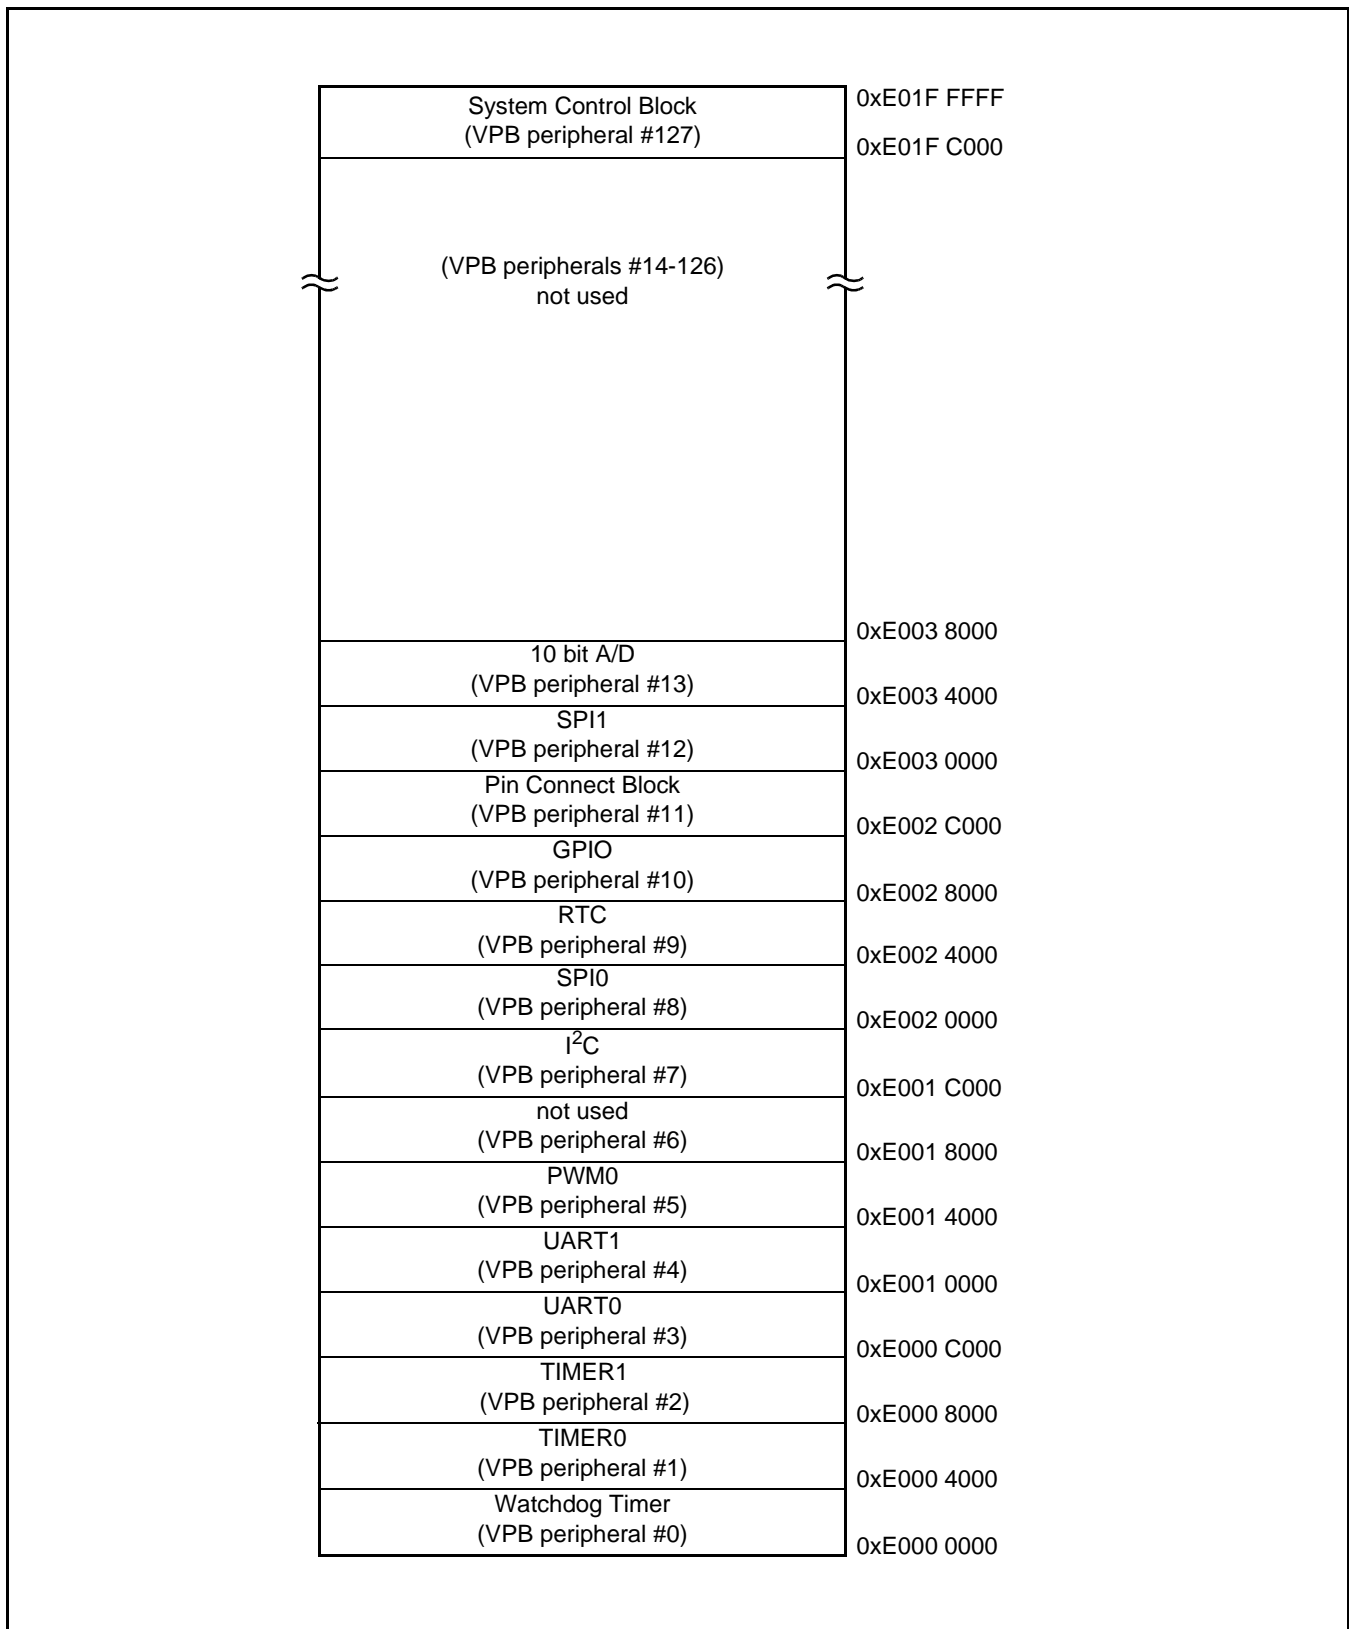

Figure 5: VPB Peripheral Map
- Unassigned VPB peripheral spaces. See Figure 5.